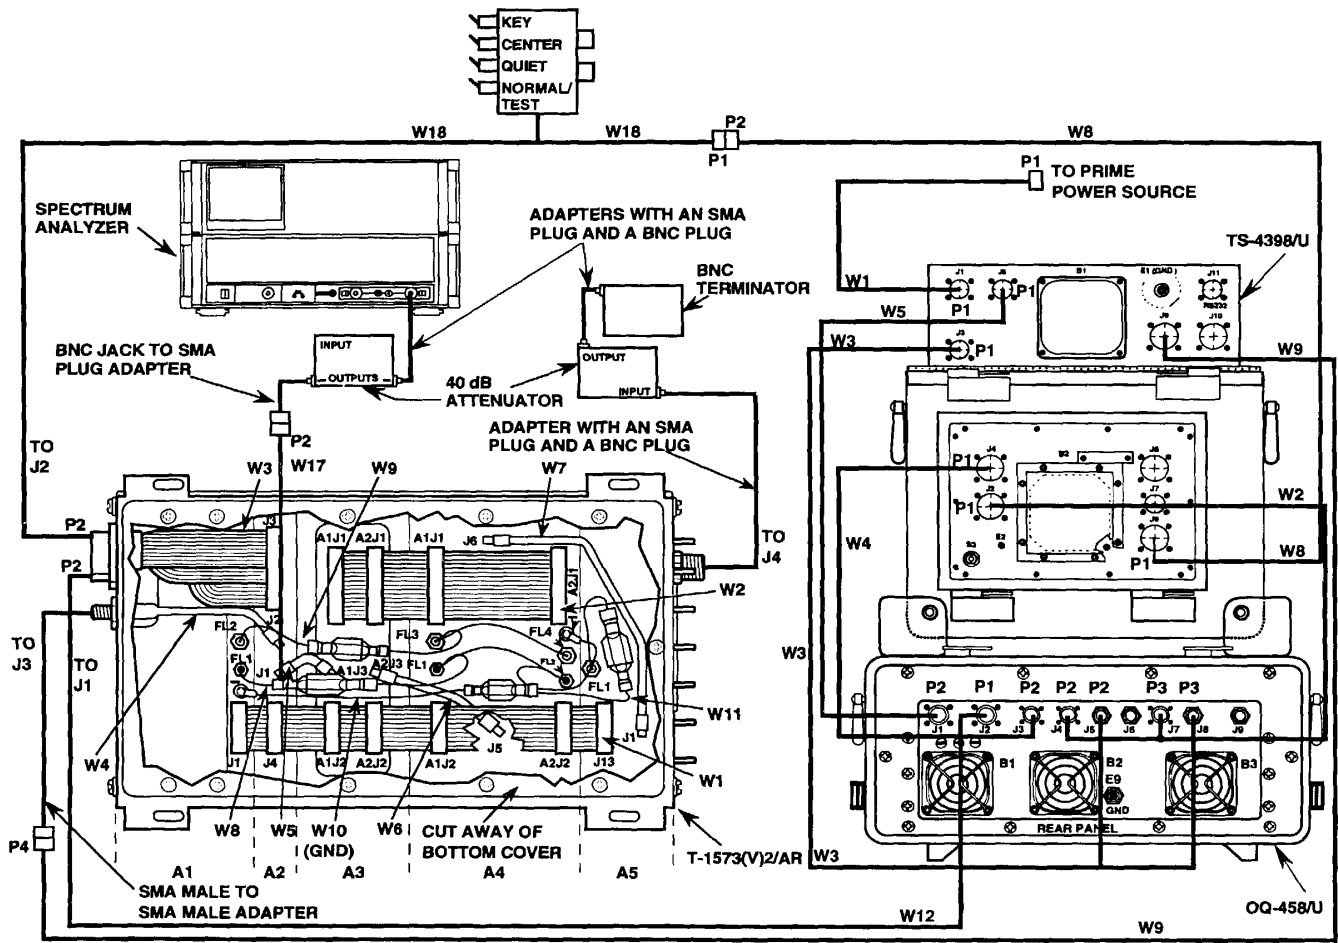

FIGURE 5-38. T-1573 (V) 2/AR INTERFACE CONTROL MODULE A2J1 TEST INTERCONNECTIONS.
48.	Reconnect cable W2 at connector A3A1J1 (see figure 5-38).